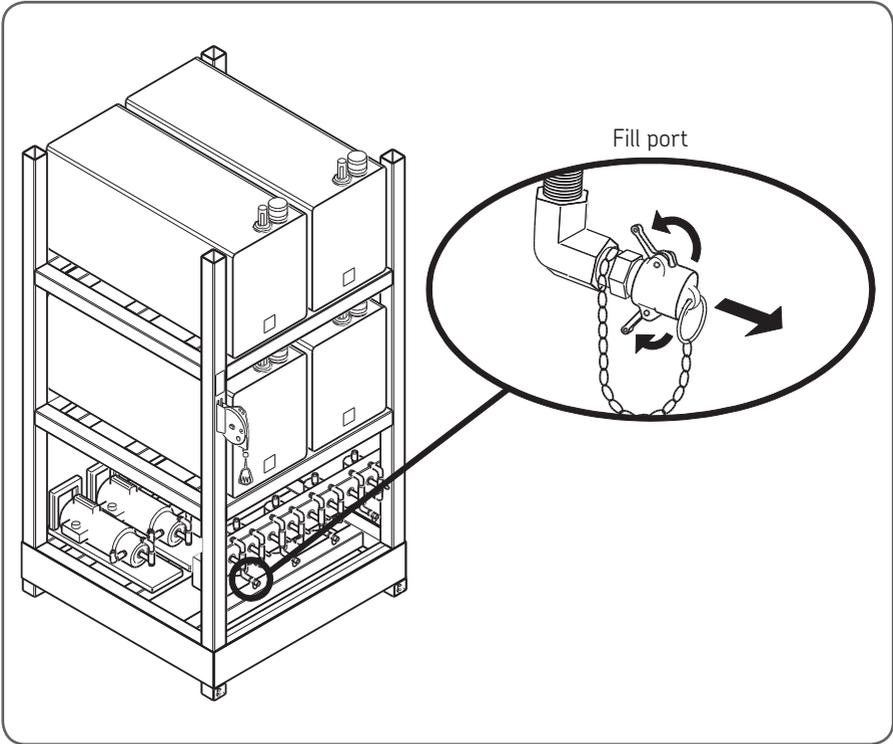

Fig 14 Remove fill port inlet end cap
4. Remove the fill port inlet end cap of the appropriate tank by lifting the tabs and pulling the end cap off. Clean the inlet of any debris before continuing. See figure 14.